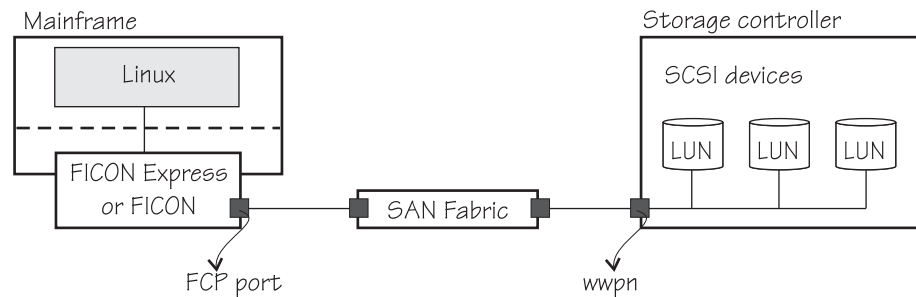

Figure 14. A storage system connected to a mainframe
- Using the correct WWPN. Every port has a WWPN, but the one you need is the storage controller WWPN, as illustrated in Figure 14. Talk to the person who configures the switches to find out what the correct WWPN is.
- The "Host Ports" (nomenclature used by the storage description) at the storage side must be configured to allow the access from the port of the FCP channel. The FCP port is illustrated in Figure 14.